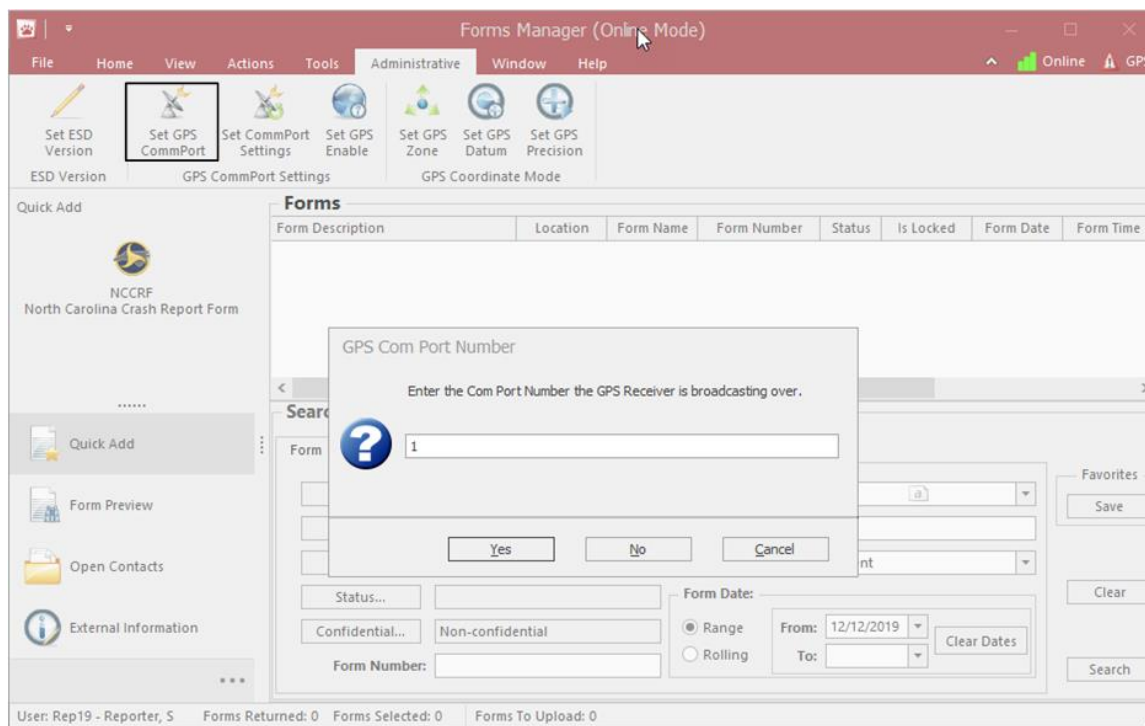

Figure 45. Set GPS CommPort Dialog Window
- From the Forms Manager window, click **Set GPS CommPort** on the **Administrative** tab. The **Set GPS Com Port Number** dialog box opens, as shown in Figure 45.